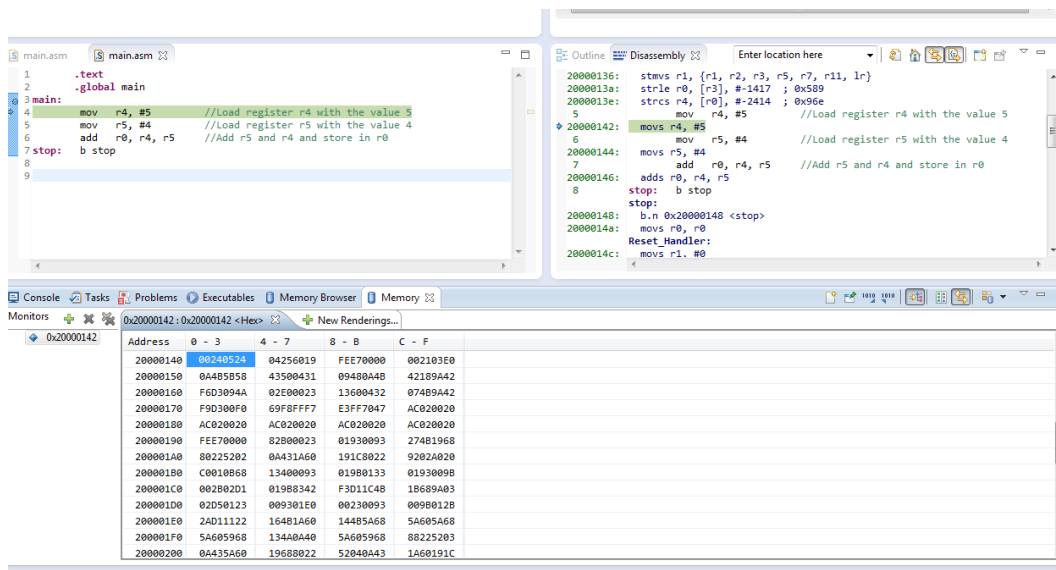

Figure 1.5: Content of the Memory
3. Before running the program, examine the contents of the memory and the registers. Figure 1.5 shows the content of the memory after loading the program onto the board. To verify this, use the Window->Show View->**Memory Browser** from the main menu and type the label name with the address character &, plus the variable type and an asterisk, for example, (int *)&main, or the address showing in the “Disassembly” view. If you click on this option, you will see the content of the memory as shown in Figure 1.5.